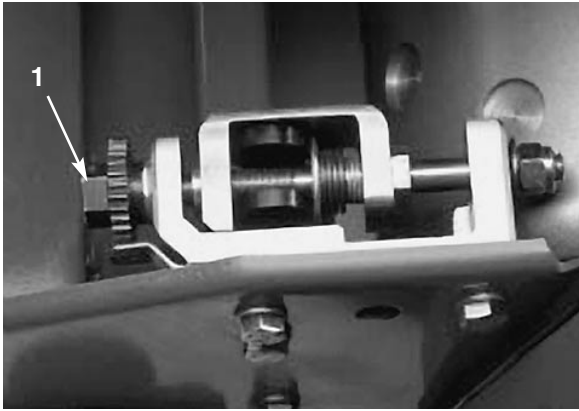

Figure 4
1. Position the machine on a flat, level work surface. Make sure the reel contact is removed by loosening jam nuts on the bedknife adjusting screws and rotating the adjusting screws counterclockwise (Fig. 4).
3. On one end of the front side of the reel, insert a long strip of newspaper between the reel and the bedknife (Fig. 5). While slowly rotating the reel forward, tighten the bedknife adjusting screw (on same end of the reel), one flat at a time, until the paper is pinched lightly when inserted from the front, parallel to the bedknife, which results in a slight drag when the paper is pulled (Fig. 4).